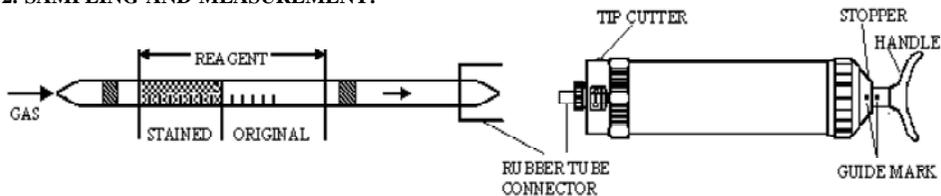

Fig.1
- ① Break both ends of detector tube.
- ② Insert the detector tube into aspirating pump securely as shown in Fig.1. (Arrow mark shall point to the pump.)
- ③ Align the guide marks on the shaft and stopper of the aspirating pump.
- ④ Pull the pump handle at full stroke until it locks and wait for 1.5 minutes or until the completion of sampling is confirmed with the flow indicator of the pump (See descriptions about the flow indicator in the instructions of the pump).
- ⑤ Push the handle without removing the detector tube from the inlet, and air in the pump will be discharged perfectly. Then repeat the step ④ once.
- ⑥ On completion of sampling, read the scale at the maximum point of the stained layer.